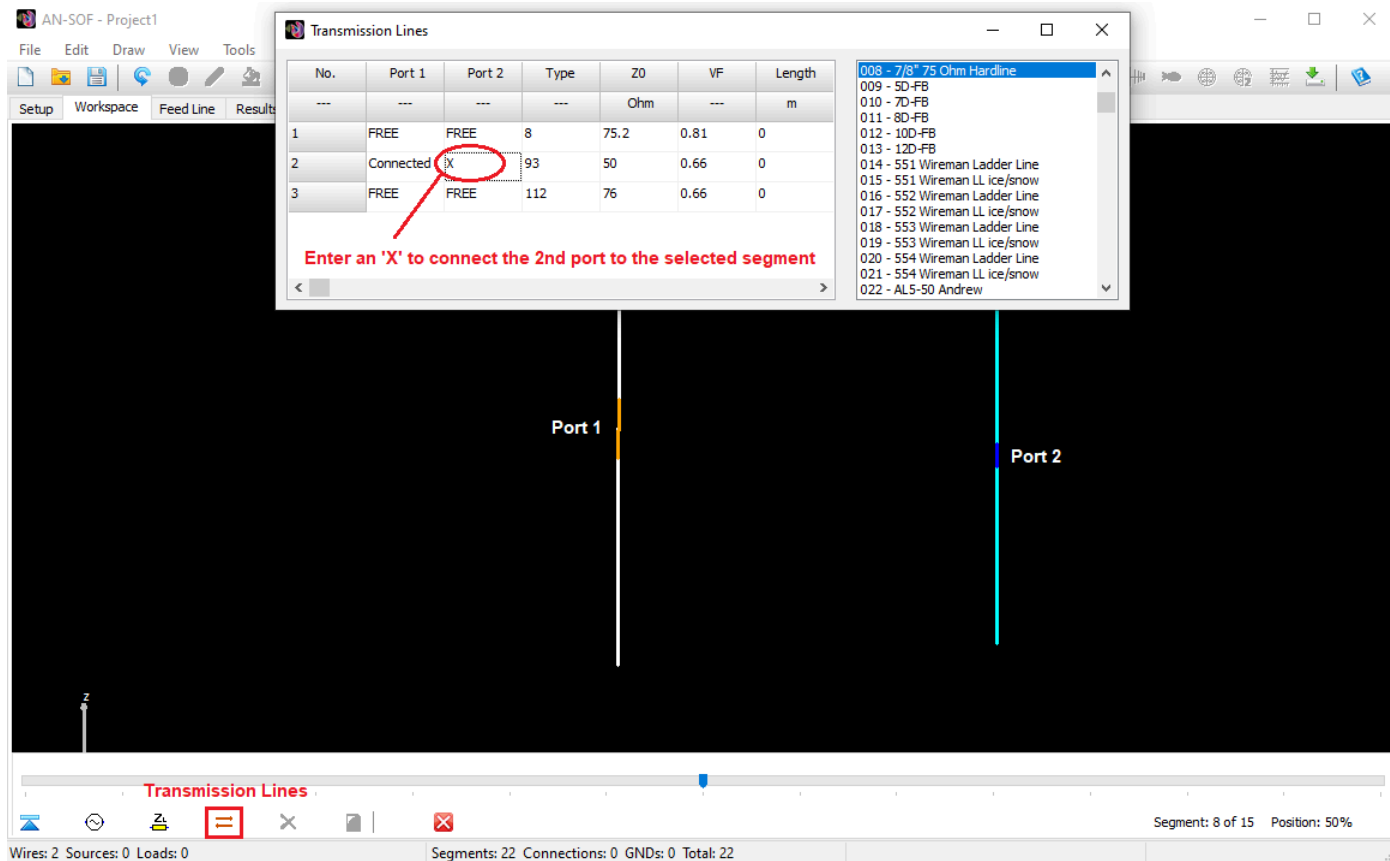
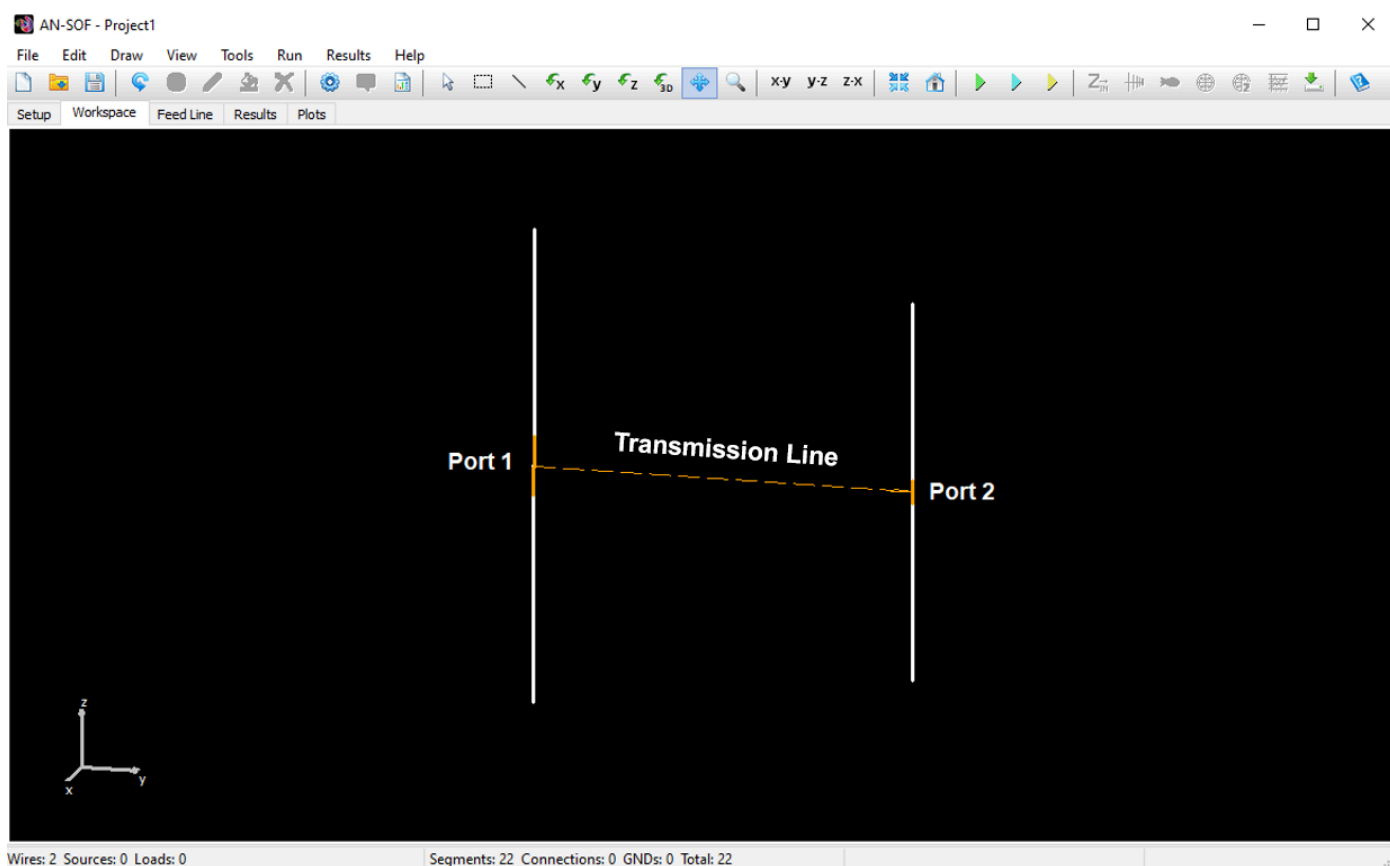

Fig. 3: Select the second segment and enter an 'X' in the ports that you want to connect there.
Fig. 4: Transmission line in the workspace, connecting two segments located on different wires.
If you enlarge or maximize the Transmission Lines window, you will be able to see the columns corresponding to the loss model parameters and shunt admittances, Figs. 4 and 5. Initially, this window only displays cells up to the ‘Length’ column so that the user does not have to worry about the loss parameter values since these are automatically loaded when selecting a line type from the list. Adding an attenuation curve when modeling a cable that is not on the list is explained in Adding a Custom Lossy Line.
Fig. 4: Enlarge the Transmission Lines window to view the loss model parameters and shunt admittances. In this example, the K0, K1, K2, and K3 columns of the RLGC model are displayed since a line has been chosen whose attenuation curve is adjusted to this model.
5. Select the second wire and repeat steps 1-4 to connect the second port of the transmission line to another segment, Fig. 3. The transmission lines with both ports connected will be graphically displayed as shown in Fig. 4.
The transmission lines that have both ports connected to segments are displayed as **straight dashed lines in orange color** in the workspace, Fig. 4. An **arrow** will indicate the direction of the line, which goes **from port 1 to 2**. Since the length of a line is another parameter that is entered, such as its characteristic impedance and velocity factor, the length of the line in the workspace may not represent the configured or “real” length of the line.